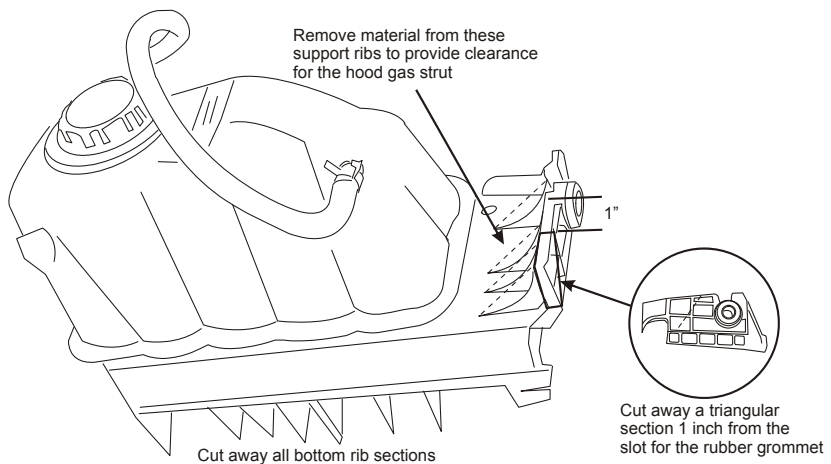

Figure 1.2
- Cut away all of the webbing on the coolant expansion bottle mount (Figure 1.2).